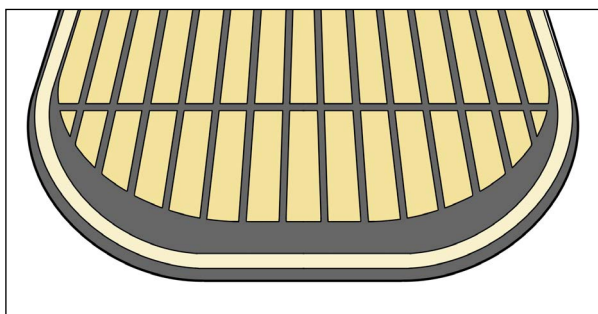

Fig. 1
3. Align the new film, making sure to cover the upper logo (Fig. 1). Each edge should be approximately 7.24 mm [.285"] from the outer edge of the device.